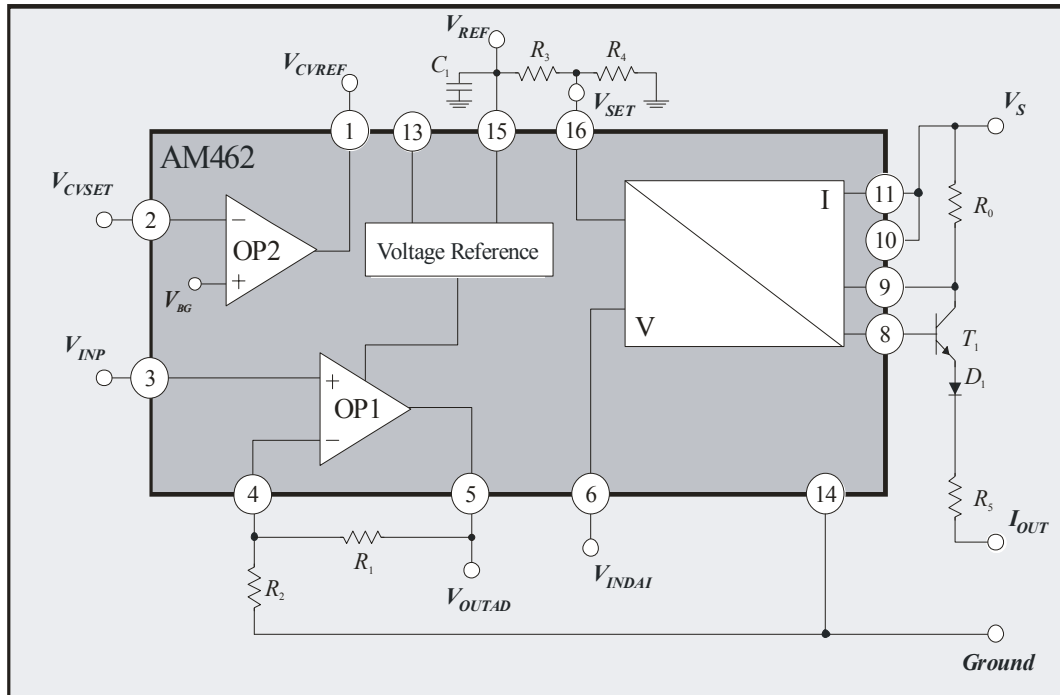
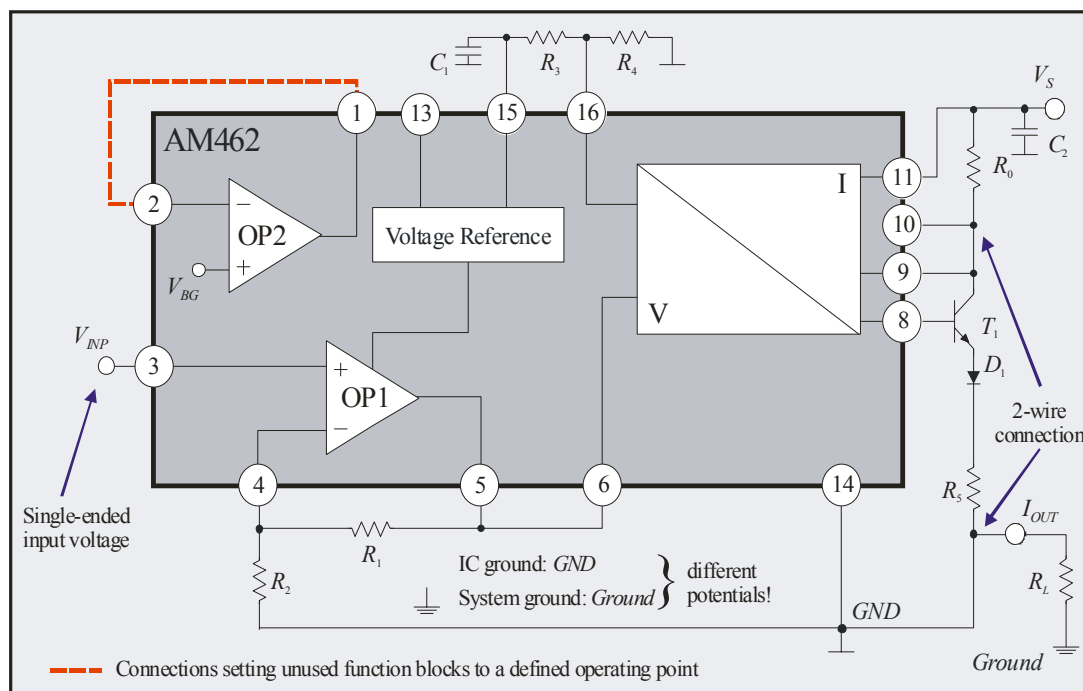

Figure 2: Block diagram of AM462 with external components (3-wire circuit for current output)
Figure 8: Typical 2-wire operation for input signals referenced to ground
AM462 is a modular, universal V/I converter and protector IC which has been specially developed for the conditioning of voltage signals referenced to ground. It is designed for both 2- and 3-wire operation in industrial applications (cf. application in Figure 8). AM462's various functions are depicted in the block diagram (Figure 2) which also illustrates how few external components are required for the operation of this particular device.
AM462 consists of several modular function blocks (operational amplifiers, voltage-to-current converters and references) which, depending on external configurations, can either be switched to one another or operated separately (see the basic circuitry in Figure 2):
2. The internal voltage-to-current converter (V/I converter) provides a voltage-controlled current signal at IC output *IOUT* (pin 8) which activates an external transistor T_1 ; this in turn supplies the actual output current I_{OUT} . To reduce power dissipation the transistor is an external component and protected against reverse polarity by an additional diode D_1 . Via pin *SET* an offset current I_{SET} can be set at output *IOUT* (with the help of the internal voltage reference and an external voltage divider as shown in Figure 2, for example). External resistor R_0 permits the output current to be finely adjusted with parallel operation of current and the voltage output. For the output current provided by T_1 the following ratio applies:
- The AM462 reference voltage source enables voltage to be supplied to external components (such as sensors, microprocessors, etc.). The reference voltage value V_{REF} can be set via pin 13 V_{SET} . If pin V_{SET} is not connected, $V_{REF} = 5V$; if V_{SET} is switched to ground, $V_{REF} = 10V$. Values between the above can be set if two external resistors are used (inserted between pin V_{REF} and pin V_{SET} and between pin V_{SET} and GND ; see Figure 2).
When using amplification stage OP1 together with the V/I converter for voltage-to-current conversion the offset of the output current should first be compensated for by suitable selection of resistors R_3 and R_4 . To this end the OP1 input must be connected to ground ($V_{INP} = 0$). With the short circuit at the input and by connecting up V/I converter pin *VSET* as shown in Figure 2 the values of the output current according to Equation 2 are as follows:
1. When operating AM462 it is imperative that external capacitor C_1 is **always** connected (cf. **Figure 2**). Care must be taken that the value of the capacitance does not lie beyond its given range, even across the range of temperature (see *Boundary Conditions* on page 7). In 2-wire operation ceramic capacitor C_2 must also be used (cf. Figure 8).